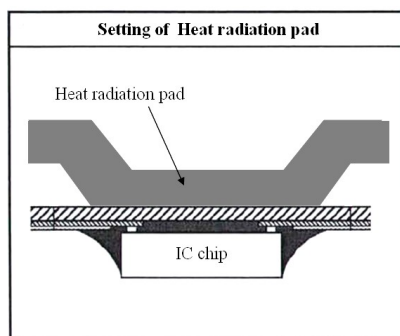

Fig.13-1 Diagram of setting example of heat radiation pad on S-SOF
- p) To radiate a heat of Source-Driver-IC(S-IC) s, the recommended operating maximum temperature is 125 °C at a chip surface, design the module to contact the opposite side of S-ICs with a high thermal conductivity material.[Fig.13-1]